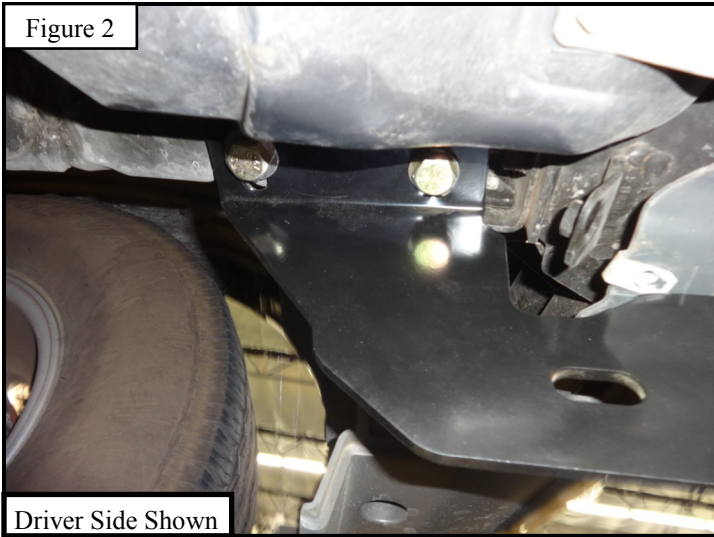

Figure 2
3. Loosely attach the Lower Brackets (item 2 &3) to each side of the frame, using (4) M12 fine thread hex head cap screws (item 17), (4) M12 lock washers (item 18), and (4) M12 flat washers (item 19). (Figure 2)